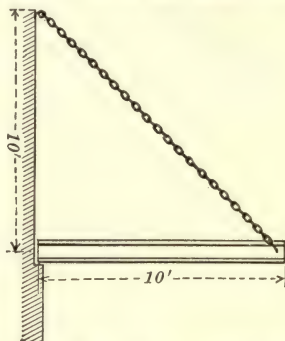

FIG. 128. — Girder supported from a wall.
8. One end of a horizontal steel girder 10 feet long rests on a ledge in the wall, and the other end is supported by a steel cable arranged as shown in figure 128. Assuming that the girder weighs 40 pounds per foot, find the tension in the cable.